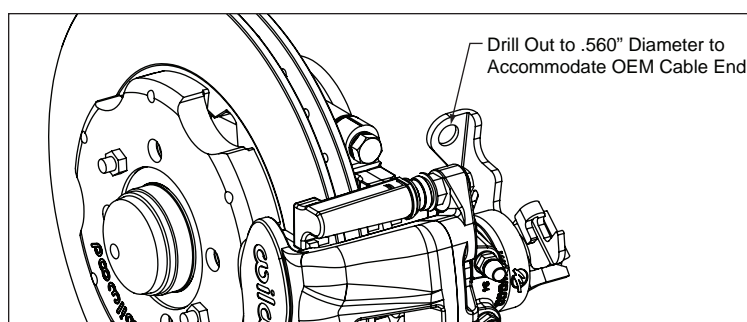
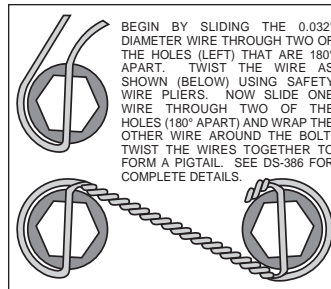

Figure 1. Caliper Cable Bracket Modification
Figure 4. Safety Wire Diagram
The parking brake cable bracket on the new Wilwood calipers needs to be modified to accommodate the original equipment cable end. Drill out the existing hole in the caliper as shown in Figure 1 to .560" diameter.
**Assembly Instructions** (numbers in parenthesis refer to the parts list and Figure 1 on the preceding pages):
- The caliper mount bracket (1) should initially be installed with clean, dry threads on the mounting bolts. Orient the bracket as shown in Figure 1 and Photo 1, and install using washers (3) and bolts (2). Initially place two .030 thick shims (4) on each bolt between the bracket and upright, Figure 1. Temporarily tighten the mounting bolts. **NOTE: The bracket must fit squarely against the mount bosses on the upright.** Inspect for interference from casting irregularities, machining ridges, burrs, etc. Later, after the caliper alignment has been checked, the mount bolts will be secured using red *Loctite*® 271.
- Orient the rotor (6) and the hat (7) as shown in Figure 1 and Photo 2. Attach rotor to hat using bolts (9) and washers (8). Using an alternating sequence, apply red *Loctite*® 271 to the threads, and torque to 155 **in-lbs**. For an added measure of security, the bolts may be safety wired using standard 0.032 inch diameter stainless steel safety wire as shown in Figure 4. Please refer to Wilwood's data sheet DS-386 (available at [www.wilwood.com/Pdf/DataSheets/ds386.pdf](http://www.wilwood.com/Pdf/DataSheets/ds386.pdf)) for complete safety wire installation instructions.
- Slide the rotor registration adapter (5) onto the axle register on the axle hub with the smaller O.D. facing outward, Photo 3. Slide the hat/rotor assembly onto the axle hub. **NOTE: The hat must fit flush against the axle hub flange or excessive rotor run out may result.** Install three lug nuts (finger tight) to keep the hat/rotor assembly in place while continuing with the installation.
- Install the brake pads (15) into the caliper (10) from the bottom with the friction material facing the rotor until the "v" spring clip snaps into place against the anvil, as shown in Figure 1 and Photo 4. They should install easily without interference.
- Lubricate the caliper mounting studs (13) with lightweight oil. Initially place two .035" thick shims (14) on each stud as shown in Figure 1 and Photo 5. Mount the caliper (10) onto the bracket (1) using lock nuts (11) and washers (12), Figure 1 and Photo 6. Temporarily tighten the lock nuts and view the rotor from the end of the caliper. The rotor should be centered in the caliper, Photo 7. If not, adjust by adding or subtracting shims (4) between the bracket and the upright. Always use the same amount of shims on each of the two mounting bolts. Once the caliper alignment is correct, remove the bracket mounting bolts (2) one at a time, apply red *Loctite*® 271 to the threads, and torque to 30 ft-lb.